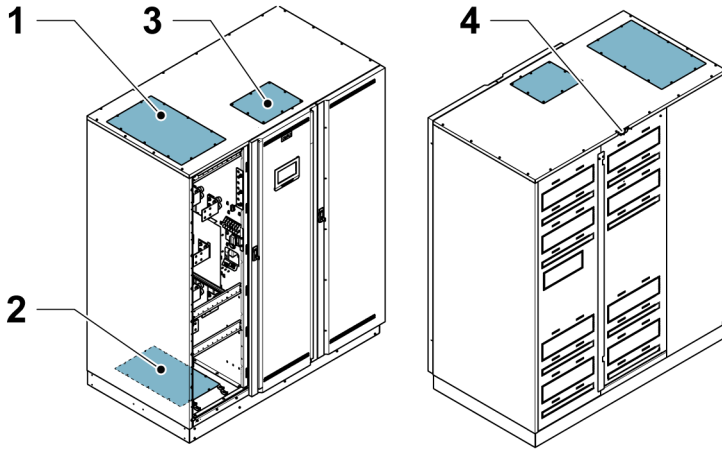

Figure 18. Gland plate locations
3. For installing the control wiring, use the rear communication cable conduit or route the wires through the communication cable access gland plate. See Figure 18.